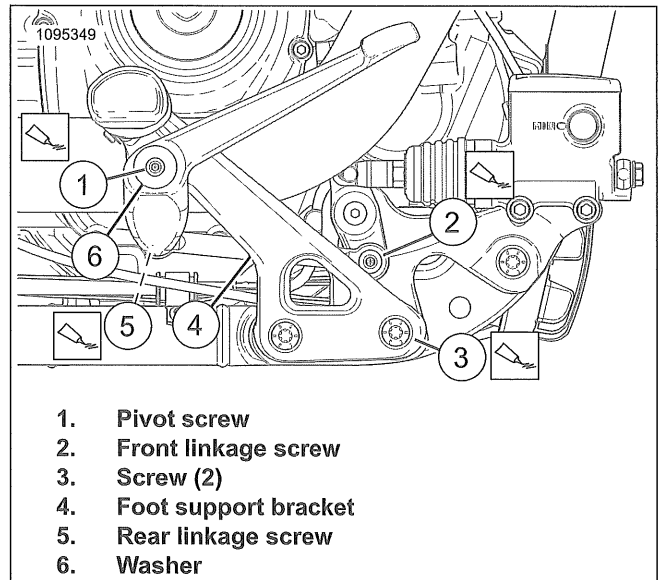

Figure 3-137. Right Side Mid Controls
1. See Figure 3-137. Remove brake pedal.
- a. Remove front brake pedal linkage screw (2).
- b. Remove pivot screw (1) and washer (6).
- d. Remove rear brake pedal linkage screw (5).
- a. Remove screws (3).
- b. Remove foot support bracket (4).
1. See Figure 3-137. Install foot support bracket.
- a. Apply threadlocker to screws (3).